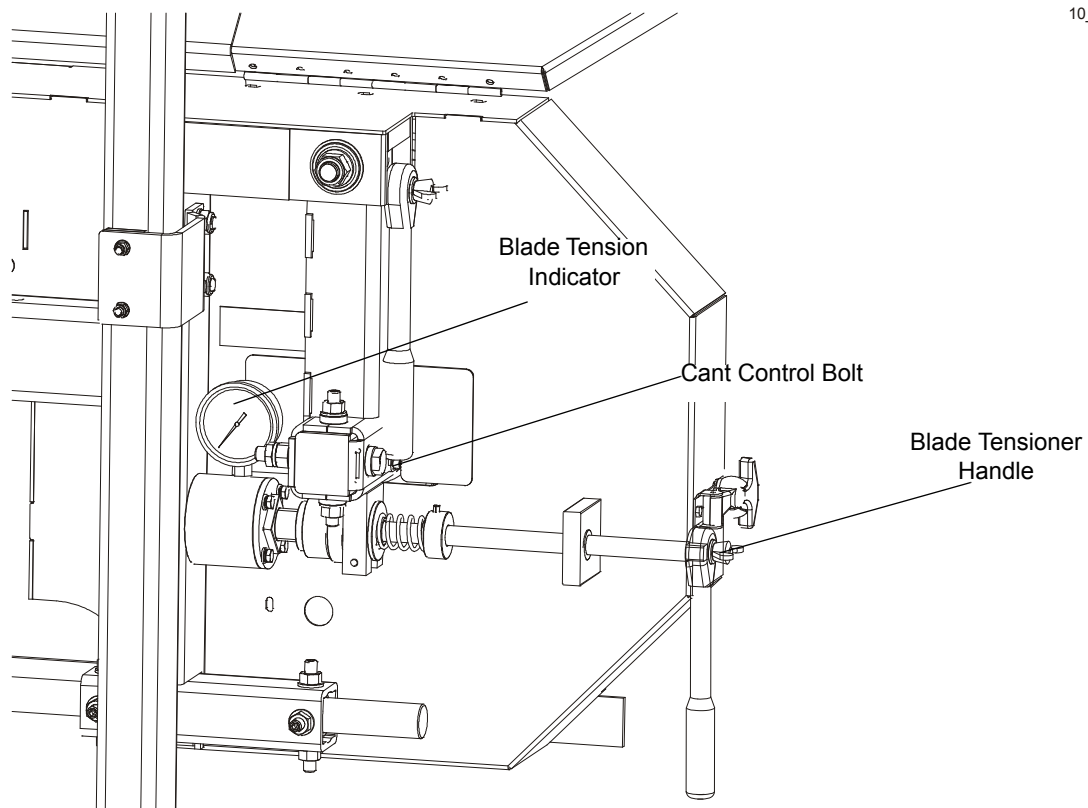

FIG. 3-9
**See Figure 3-9.** Tension the blade by turning the hydraulic tensioning handle clockwise until the tension gauge indicates the recommended tension. Check the blade tension occasionally when adjusting the cant control or while cutting. As the blade and belts heat up and stretch, the blade tension will change. Also, ambient temperature changes can cause tension to change.